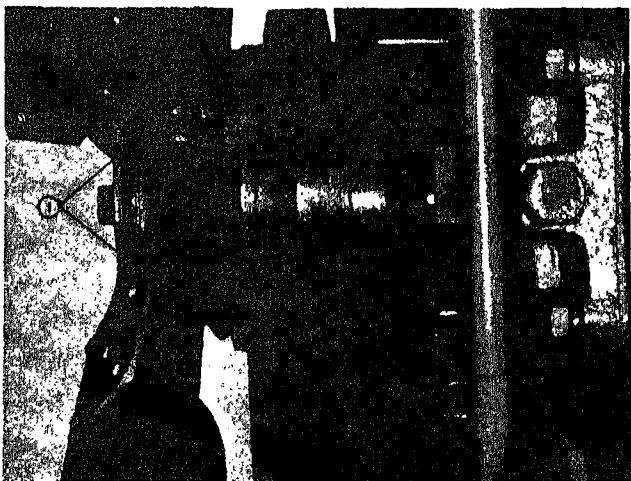

Fig. 5-11. Fan hub lubricating points
- . Fan hub contains plugged holes (1, Fig. 5-11) for greasing